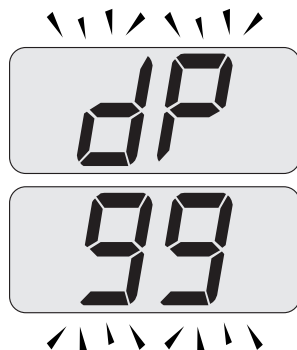

Fig. 10.23
- Press further key 14 to vary again the output in flue sweep mode: when the LCD display displays the letters **dP** that alternate with the heating water temperature value (e.g. **99**), the "flue sweep function" is at maximum output in domestic hot water mode (Fig. 10.23).